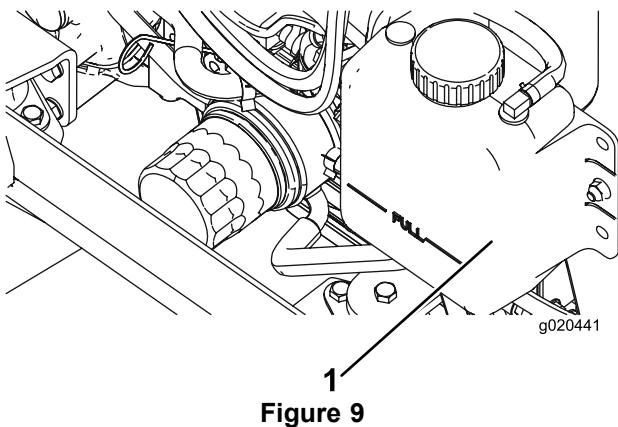

Figure 9
1. Carefully remove the radiator cap and expansion tank cap (Figure 9).